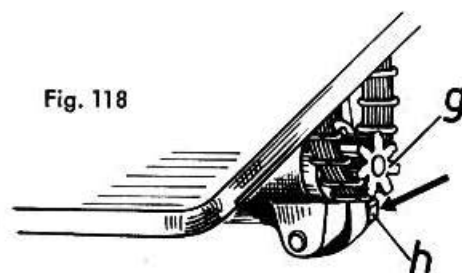

Fig. 118
5. Loosen hexagon screw h (Fig. 118) and return the machine to its normal position in the mounting stand.
8. Since hexagon screw h (Fig. 118) is loose, the motor shaft can be tilted toward the bedplate so that the lower end of the cord belt can be slipped onto sprocket g.
Loosen hexagon screw h on the motor bracket (Fig. 118), tilt the sprocket-end of the motor shaft toward the bedplate, and pull the motor belt off the sprocket. Remove the balance wheel as instructed in paragraph 6 in the preceding chapter, and exchange the old for a new driving belt.